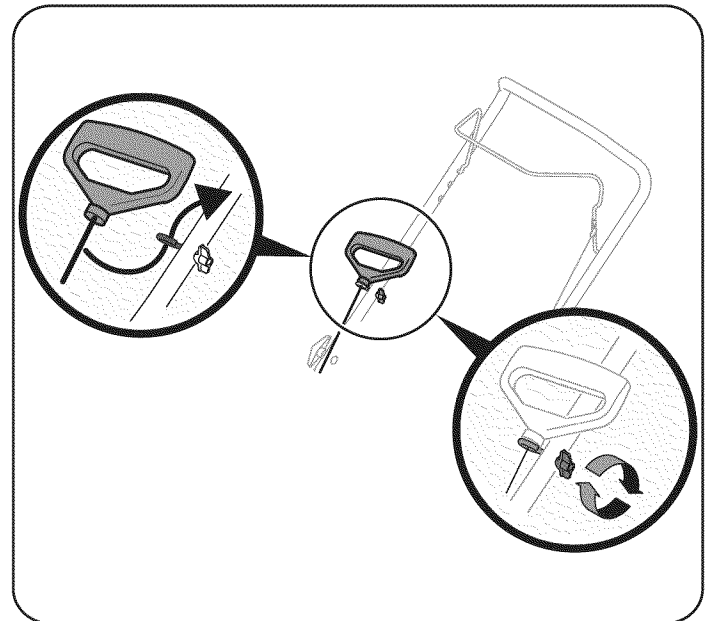

Figure 3
3. Loosely attach the eyebolt and plastic wing nut (found in the manual bag) to the handle. See Figure 3. Pull the recoil starter handle out and thread the rope through the eyebolt. Tighten the wing nut to secure the eyebolt in place.